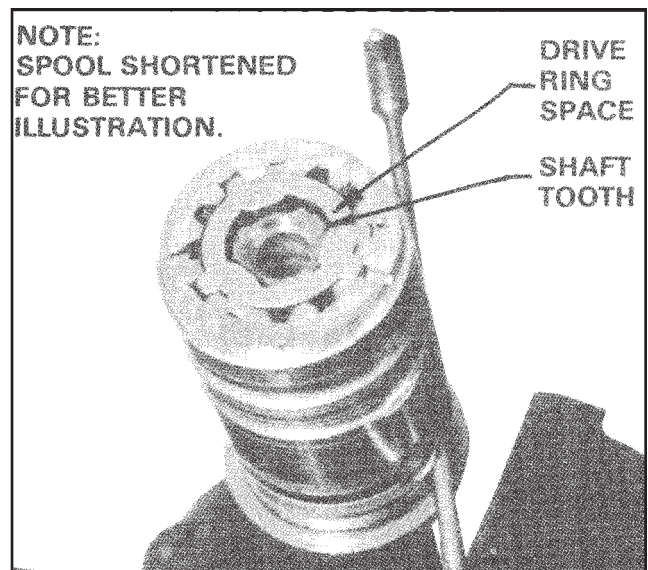
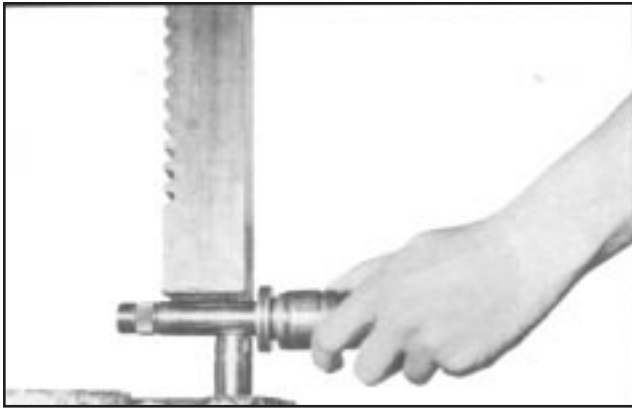

Figure HGA-18
Figure HGA-19
10. Insert the drive ring (18) into the spool (22) end by visually aligning an internal space on the drive ring with a tooth on the input shaft (16) split, and allow the drive ring to drop to the limit of its travel. If the drive ring does not engage the input shaft spline, a slight rotation of the input shaft will allow the drive ring to become fully engaged. Remove torsion bar (20) gage. (See Figure HGA-18).
11. Install spacer (19) over torsion bar and pin assembly (20) and insert the assembly into the spool (22) end.
12. Align the cross-hole in the torsion bar (20) with the cross-hole in the input shaft (16) and insert a .120 diameter pin punch to maintain alignment.
13. Insert the needle roller (17) into cross-hole in input shaft (16); and while retracting the pin punch, engage the pin in the torsion bar (20) cross-hole.
14. Initiate press of needle roller (17) into torsion bar (20) with a few light impacts. Press needle roller flush with outside diameter of input shaft (16) using a 1/2" drive socket of 11/16 size for supporting the input shaft. (See Figure HGA-19). With a few light impacts on a .120 diameter pin punch, drive needle roller (17) approximately 1/32 below the input shaft (16) O.D. (See Figure HGA-12).